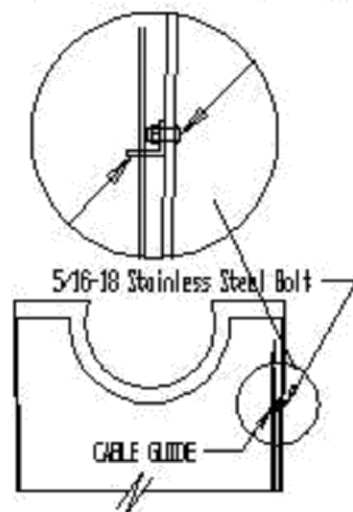

FIGURE 3
3. Connect cable, cable guide and weight assembly to the lid. See figure 3.